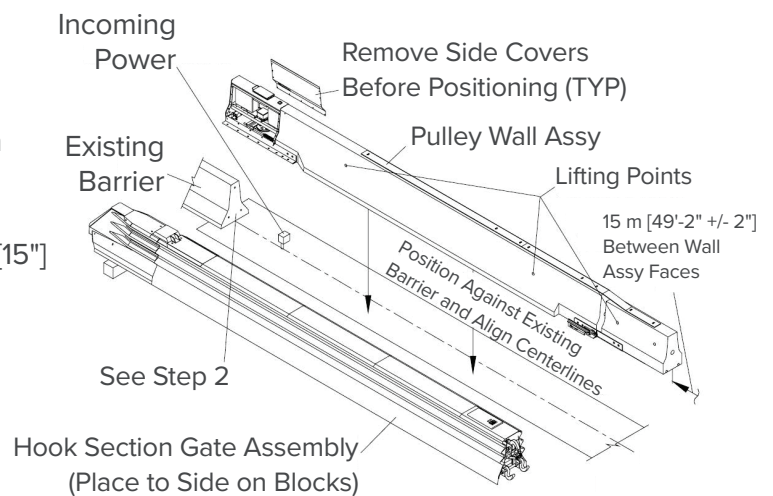

Figure 5
- 2. Position the wall assemblies** (Figure 5). Assemblies where the existing barrier or transitions are freestanding and unanchored must be doweled to the BarrierGate® 2.0 Steel Wall Assembly Enclosures (Figure 5). If dowels are required, use a drilling template which matches the pattern of holes in the enclosure ends to ensure the dowel rods will line up. Drill holes before positioning the Wall Assemblies. Remove the shipping tie downs that hold the gate and wall assemblies together. Lift the Gate Assemblies (refer to the checklist drawing) off the Wall Assemblies and set them down to the side of the assembly and the proper orientation. Carefully place the gate halves on wood blocks to avoid damage.